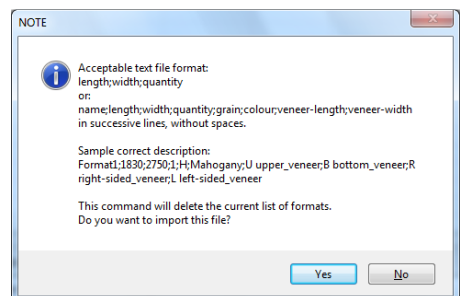

Fig. 25 – information about required format of a text file with formats data
- **Text files** – loads TXT and CSV files containing lists of formats. Thus is possible to quickly import formats lists made in other programs. After selecting this option you will see a message, presenting the correct file structure (Fig. 25), and then a browser in which you can select the TXT or CSV file and click **'OK'**. Formats listed in the file will appear on the format list in CAD Cut.